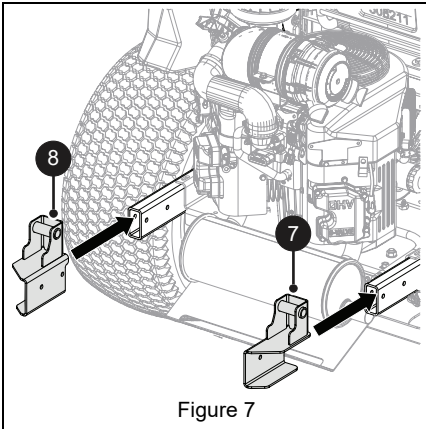

Figure 7
1. Slide left bagger mount (item 8) and right bagger mount (item 7) onto frame rails. See Figure 7.